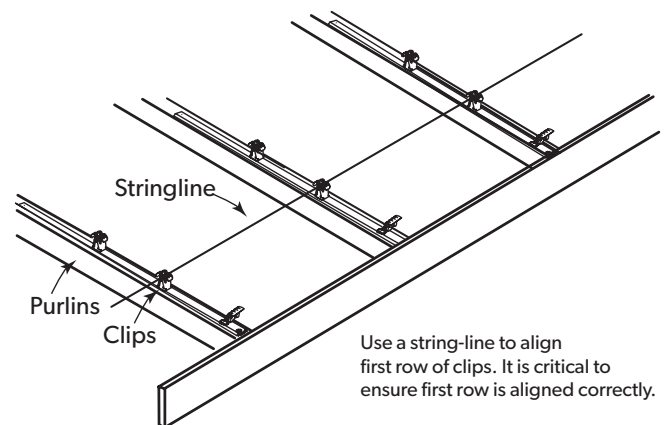

Figure 9.1.9
- 4 Align the clips using a string line (Figure 9.1.9) or the first sheet as a straight edge to align the clips as you fix a clip to each support working towards the high end of the roof.